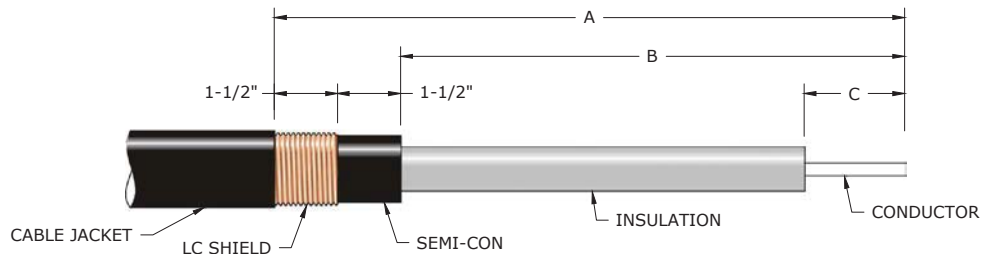

FIGURE 1
STEP 2: REMOVE THE AMOUNT OF CABLE JACKET SHOWN IN **FIGURE 1** AND **TABLE 3**.
STEP 3: REMOVE THE LC SHIELD, EXCEPT FOR THE LENGTH SHOWN IN **FIGURE 1** AND **TABLE 3** WHICH WILL EXTEND BEYOND THE END OF THE CABLE JACKET.
STEP 4: **USE AN APPROPRIATE TOOL** AND SCORE THE SEMI-CONDUCTIVE INSULATION SHIELD SO THE LENGTH OF SHIELD SHOWN IN **FIGURE 1** AND **TABLE 3** CAN BE REMOVED.
IF YOU ARE USING A RIPLEY WS SERIES INSULATION STRIPPER, REMOVE THE PORTION OF THE SEMI-CONDUCTIVE INSULATION SHIELD SHOWN IN **FIGURE 1** AND **TABLE 2** AT THIS TIME AND THEN PROCEED TO STEP 5.
STEP 5: REMOVE THE AMOUNT OF INSULATION SHOWN IN **FIGURE 1** AND **TABLE 3**.